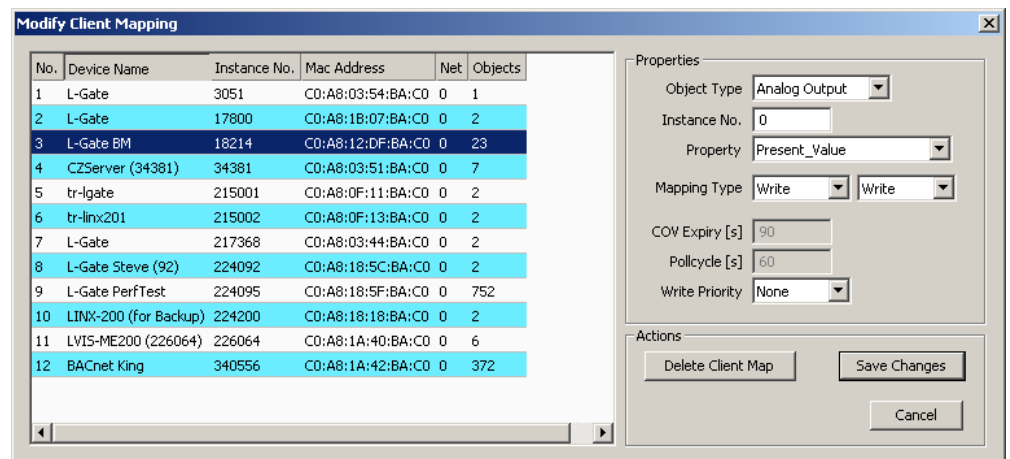

Figure 97: Modify Client Mapping Dialog.
- This opens the **Modify Client Mapping** dialog as shown in Figure 97.